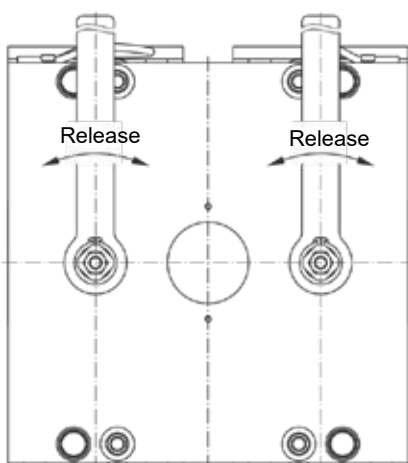

Fig. 4 (Manually actuated)
The brake is released by moving both hand release levers (G) simultaneously, see Figs. 4 and 5.